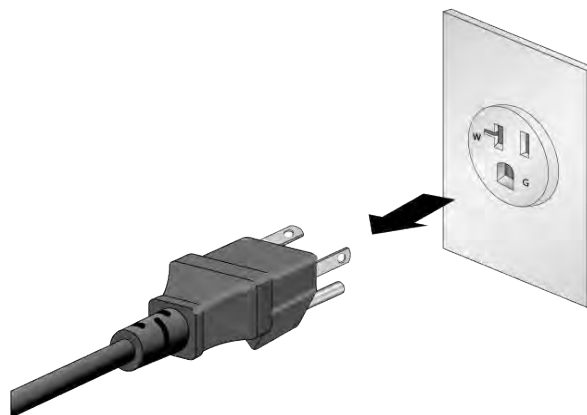

Figure 89. Disconnecting the AC Power Cord from the Power Source
1. Disconnect the AC power cord for the power supply from the AC power source. Refer to Figure 89.